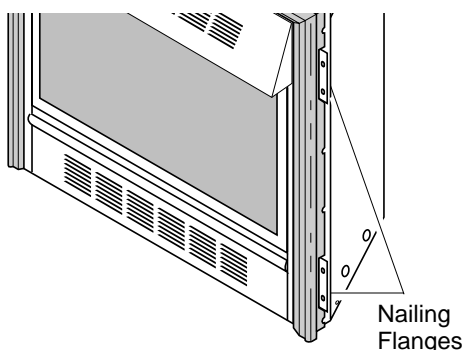

Figure 10 - Location of Nailing Flanges
7. Break off nailing flanges (see Figure 10, page 9) with hammer or pliers.